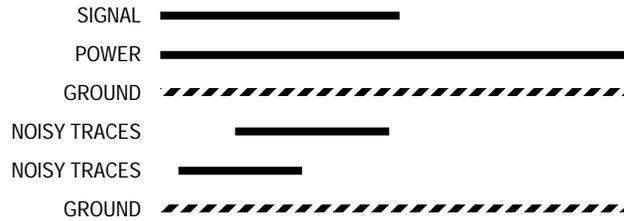

Figure 7. Multilayer Board Layout
- Use multilayer boards to enclose traces between power and ground planes as shown in Figure 7.